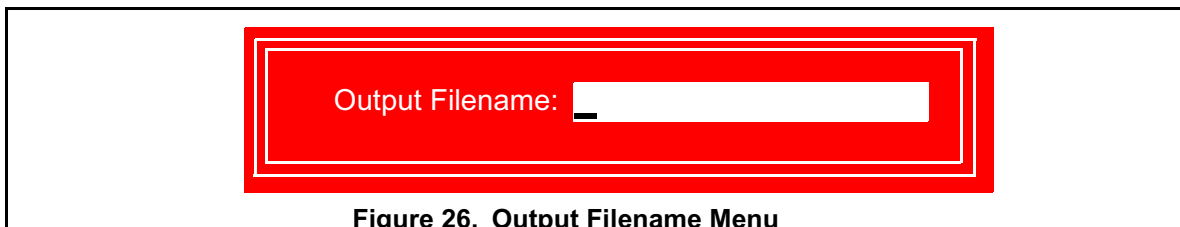

Figure 26. Output Filename Menu
4. Press Enter. The **Save & Exit?** command prompt displays. See Figure 26.
6. Type a new file name, or type the original file name in the **Output Filename:** prompt as desired. Remember, file names may not exceed eight characters in length. See Figure 26.